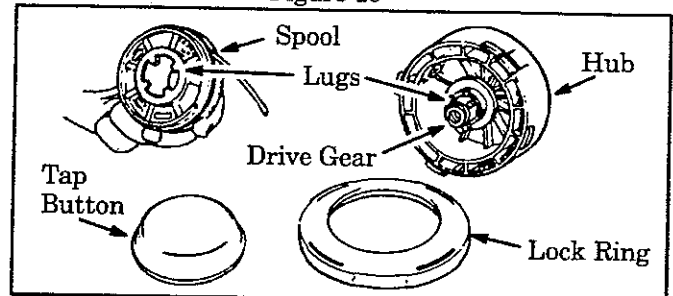
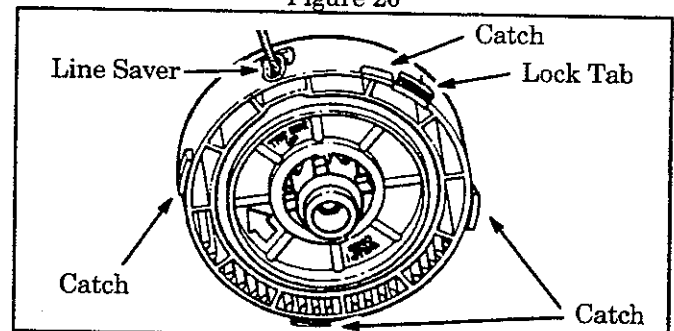

Figure 20
Figure 21
- Remove the lock ring, tap button, and spool. Figure 20.
NOTE: The aluminum line saver (Figure 21) can become worn during use. After a groove is worn into the line saver, remove it from the trimmer head, turn it upside down, and reinstall it (with the spool removed) to provide a new wear surface.
- Insert the end of the line through the line saver. Figure 21. Place the spool in trimmer head. Press the spool down, then turn it enough to lock the lugs on the spool under the lugs on the drive gear. Figure 20.
- Replace the tap button. Align the lock ring over the catches on the hub; push the lock ring down on the hub and turn it clockwise until the catches lock into place. Figure 21.